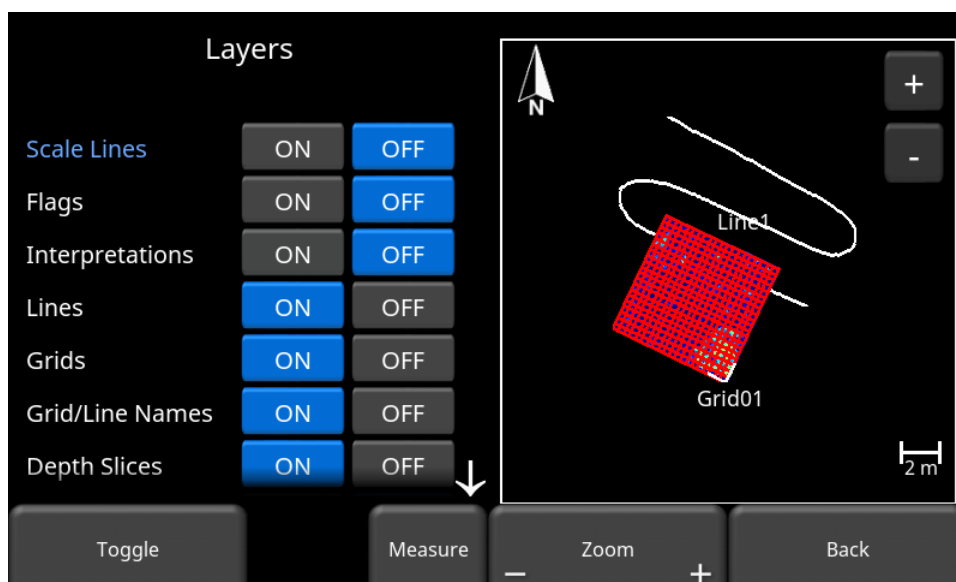

Figure 9-6: Interpretations turned off
- **Interpretations** – controls the display of all interpretations (Figure 9-6)